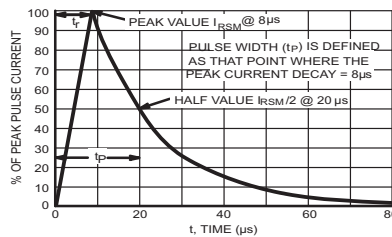

Figure 5. 8 X 20us Pulse Waveform
3. Surge current waveform per Figure 5.